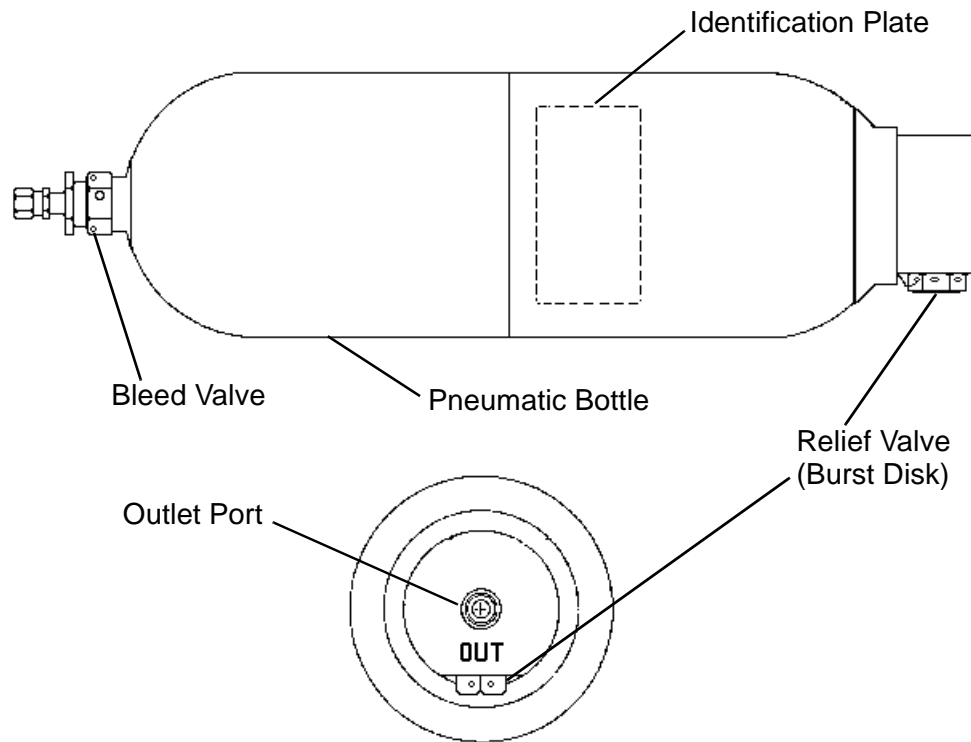

Figure 3. Primary Components for Part Number 40005337-1
- C. Pneumatic Bottles, part numbers 40005337-1 and 40005355-1, consist of a container assembly, a red discharge indicator (burst disk), and a valve (Figure 3 and Figure 4).